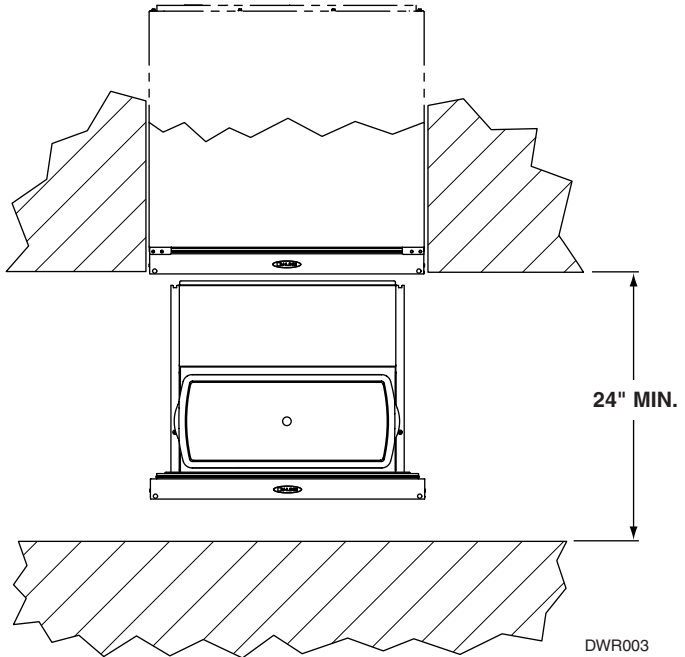

Figure 3 – Front Clearance
3. The unit must be installed in a wall or under a counter top to allow for the installation of the anti-tip kit. The drawer unit can be installed with an appliance or fixture located in front of it, as long as there is adequate clearance for the drawer to be opened and removed when servicing (Figure 3).